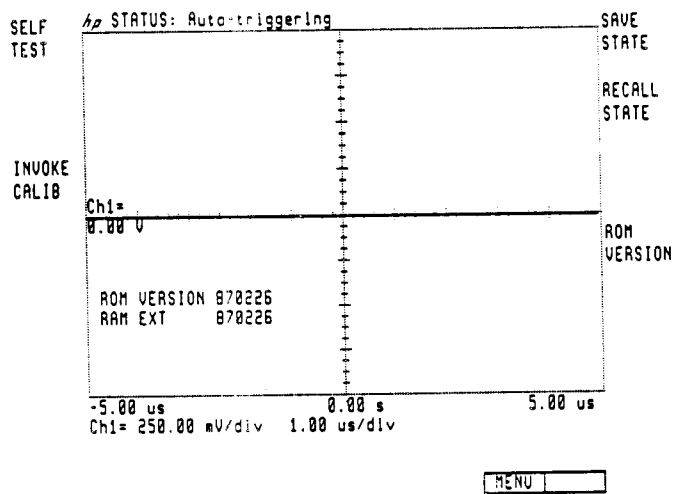

Figure 1-3. HP 70700A Digitizer Firmware Versions
3. When the next menu screen appears, press *ROM VERSION*. The ROM and RAM versions will appear on the screen as shown in Figure 1-3.